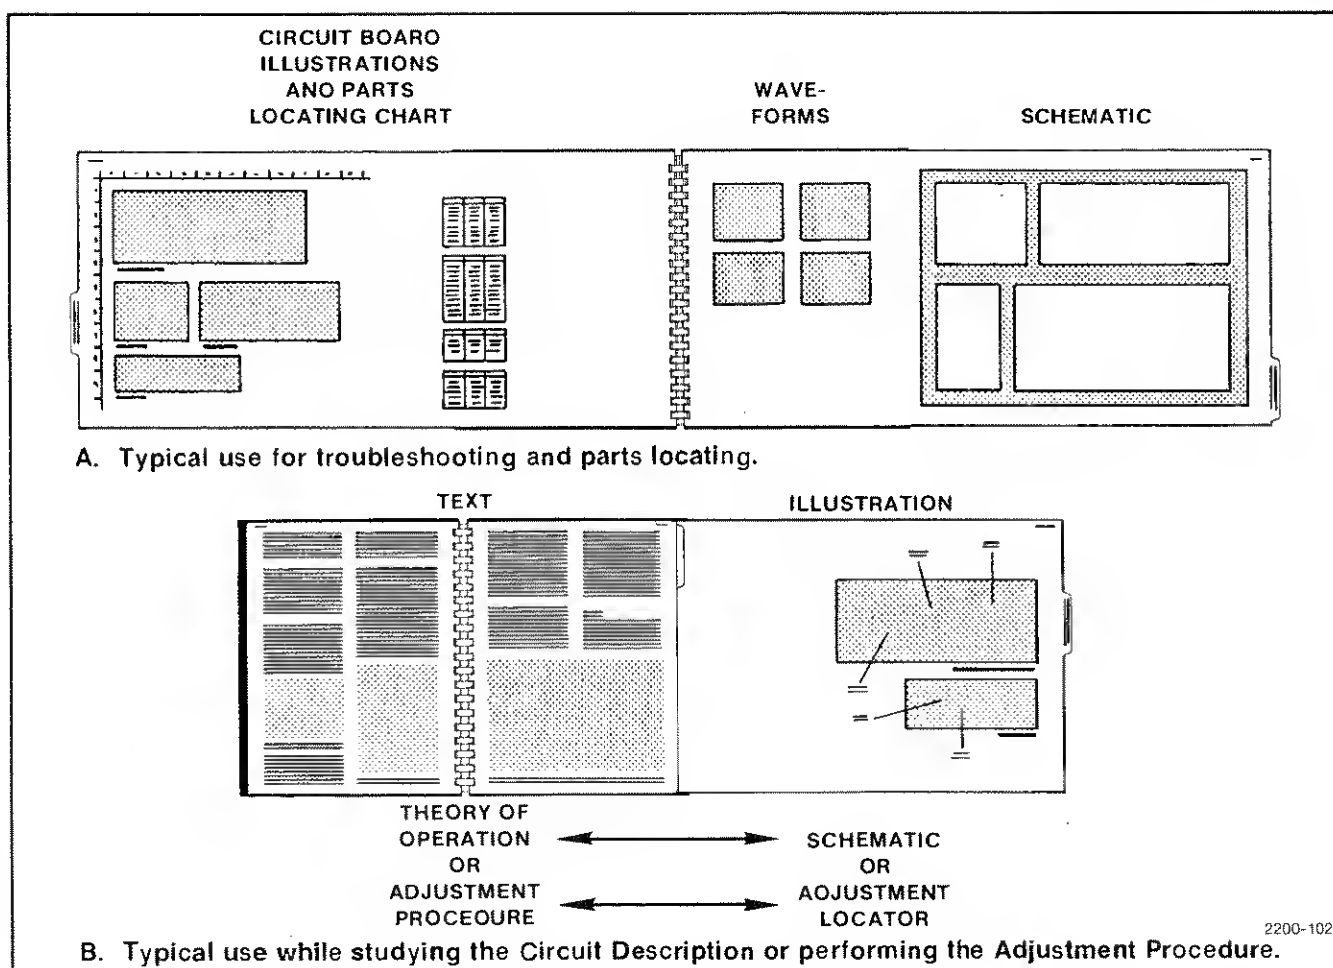

Fig. 6-1. Using the 1750-Series Instruction Manual fold-out pages.
**Foldout Pages.** The foldout pages of this manual contain significant information for troubleshooting the instrument. Block and schematic diagrams, waveforms, circuit board illustrations, and parts locating charts are located on foldout pages. See Fig. 6-1 for more information about their use.